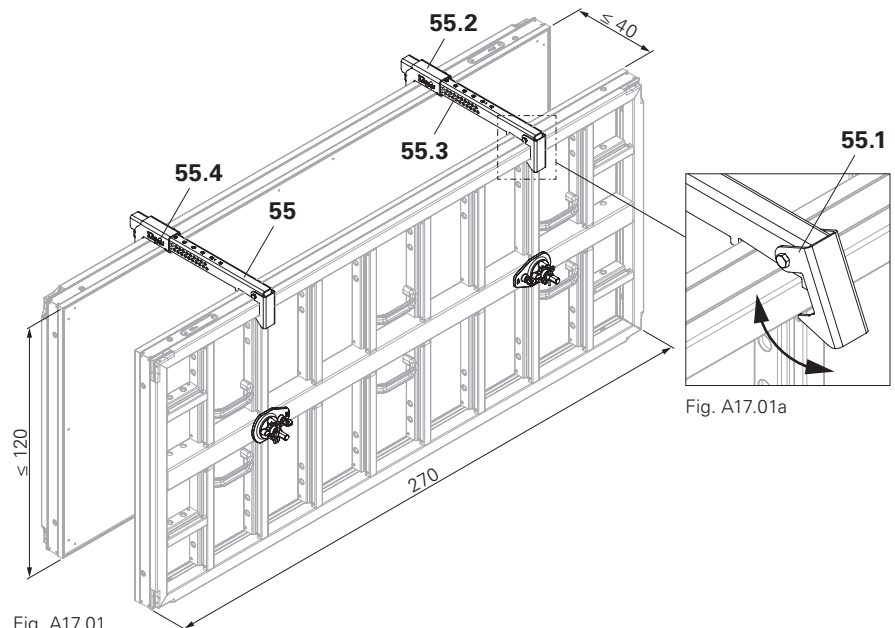

Fig. A17.01
- Wall thickness ≤ 40 cm: MX 15-40 (Fig. A17.01)